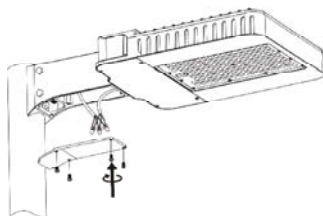

FIG.5
- Connect the power lead properly, make wirings inside the straight arm, and tighten the arm door with screws (see **FIG.5**).